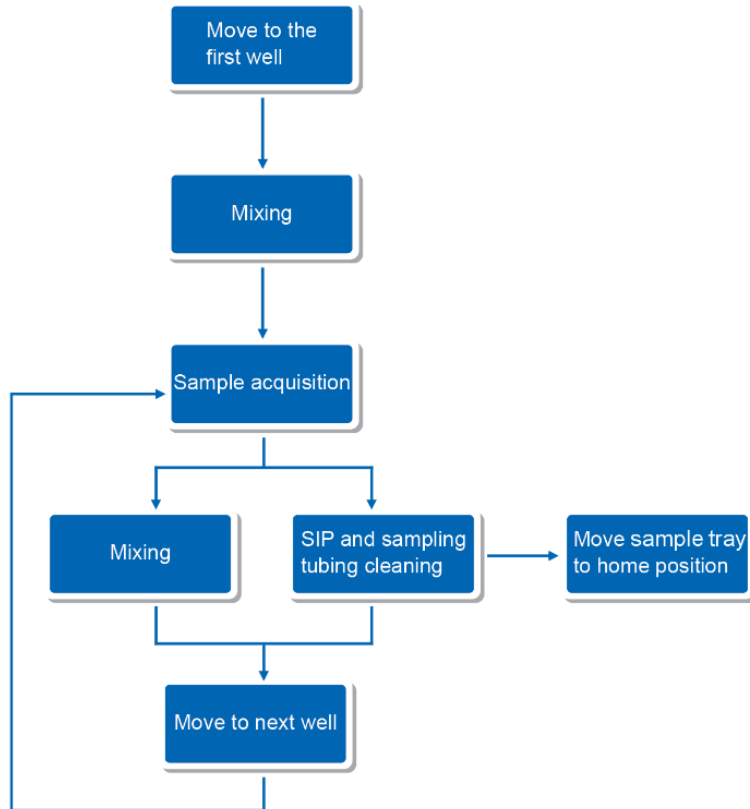

Figure 32. Workflow of Automated Sample Acquisition Procedure with NovoSampler Q
- The automatic Sample acquisition workflow with NovoSampler Q is shown in Figure 32. The process will begin with the sample tray moving to align the sample injection probe and the first sample well. NovoSampler Q will then mix the sample and it will be followed by sample acquisition. After sample acquisition is completed, the instrument will rinse the sample injection probe. The NovoSampler Q will then mix the sample, move the tray to align the sample injection probe with the next sample well and begin the sample acquisition. The process will continue until all the selected samples are acquired. The frequency of mixing and rinsing will depend on the settings in the **Plate Manager** panel, which is opened from **View > Show > Plate Manager**.